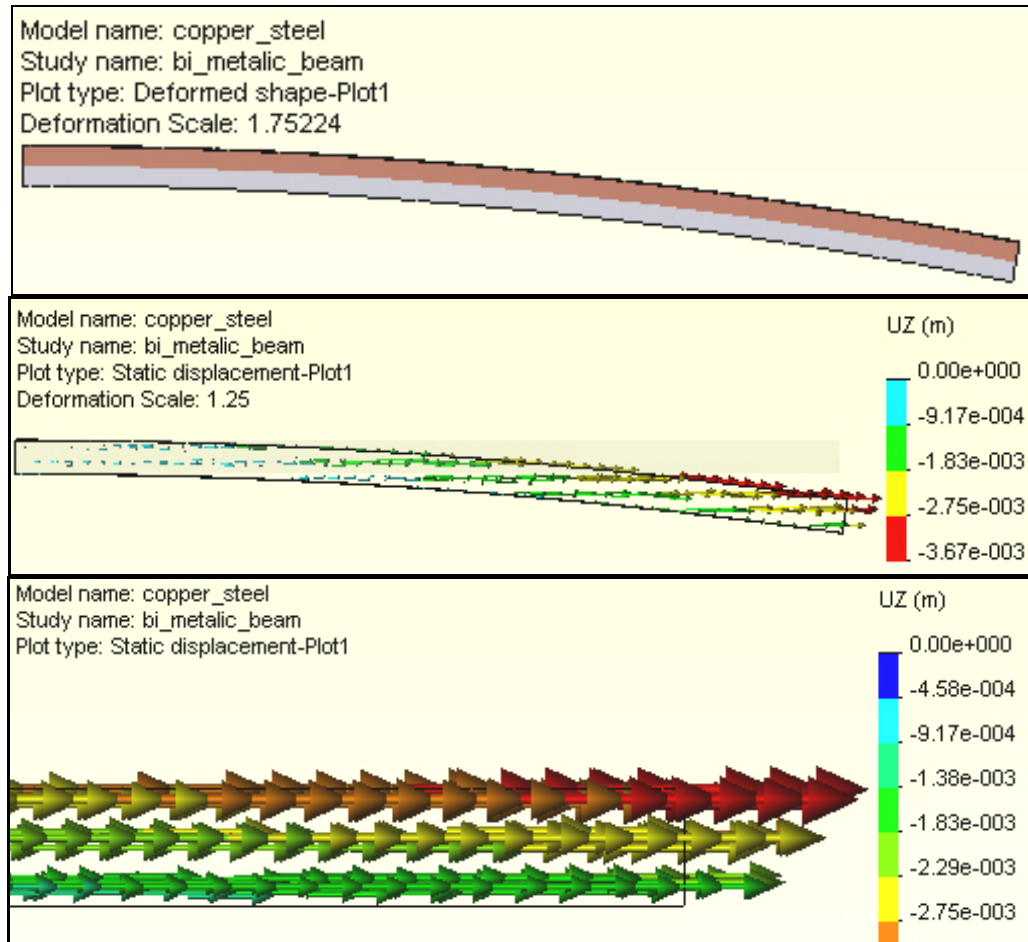

Figure 15-4 The deformed shape and its axial components
would have just axial (UZ) displacements. Looking at them in detail, as seen in Figure 15-4, you see that component is always positive, but decreasing from top to bottom (from copper to steel).